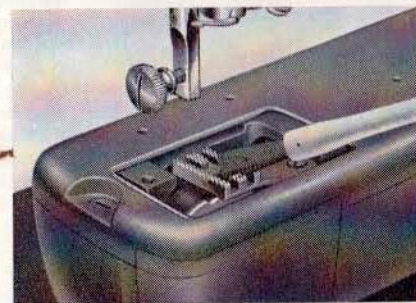

Fig. 53.
To clean the machine, use the brush you will find in the attachment box. Open the cover plate at the left end of the upper arm and brush off the fuzz that has accumulated in the mechanism. Then screw off the throat plate and brush the feed dog clean — brushing underneath the teeth as well as between them (Fig. 53).
1. Feed dog is clogged with lint. Clean it out (See page 28 fig. 53).